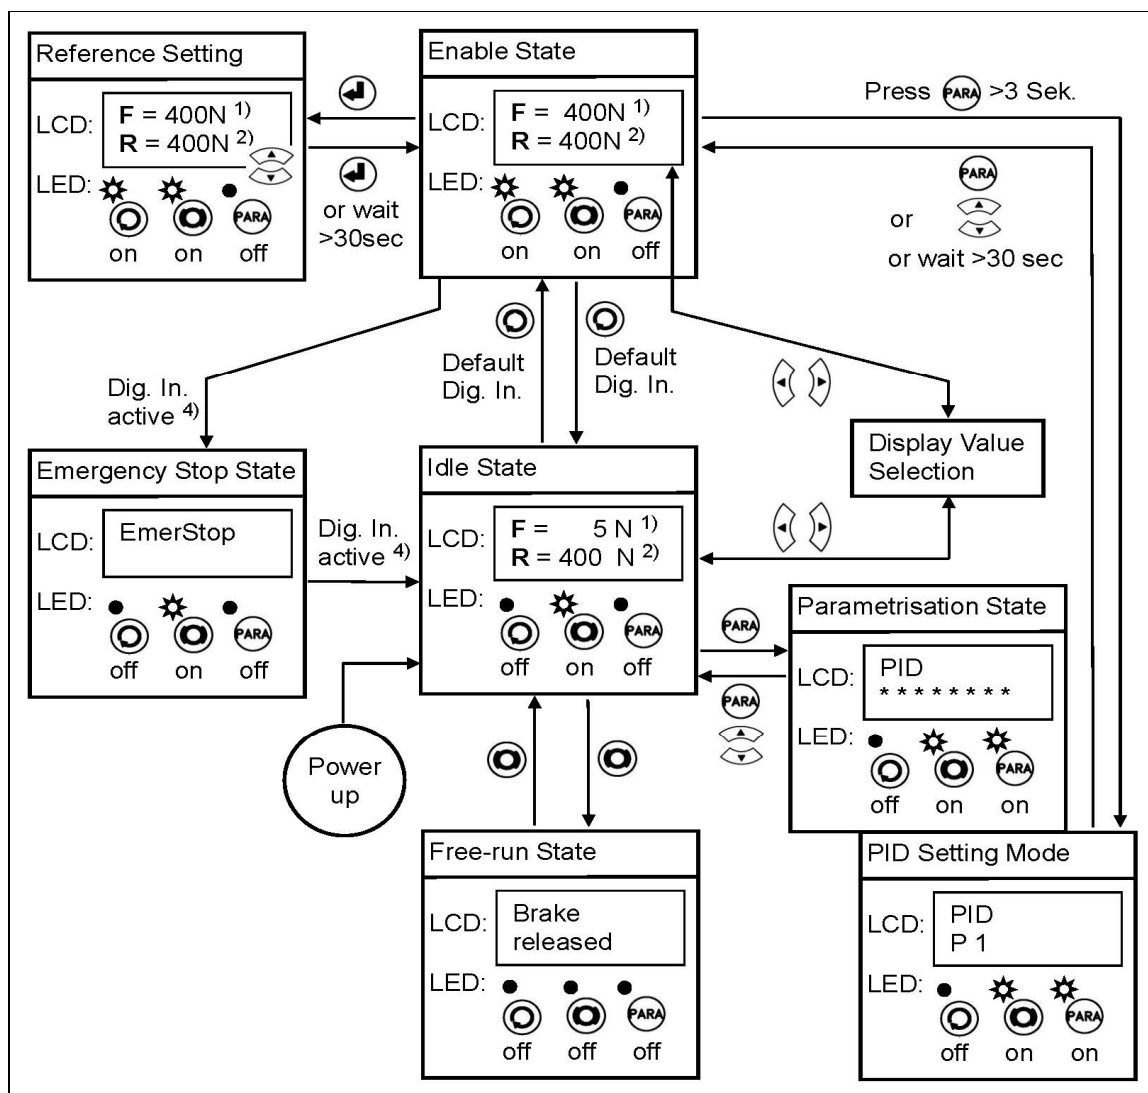

Fig. 12: Top-level view of operation control for brake applications C309010e
The user can toggle between the different states by pressing a key on the front panel. **Fig. 12** and **Fig. 13** provide an overview about the different Operation States and how to move from one state to the other.
2. Go to “Enable State” (see Fig. 12 or 13)
The Parametrisation State can only be accessed from the “Idle State”. From the “Enable State” only the Parameter Group “PID” can be reached (see Fig. 12 and Fig. 13).